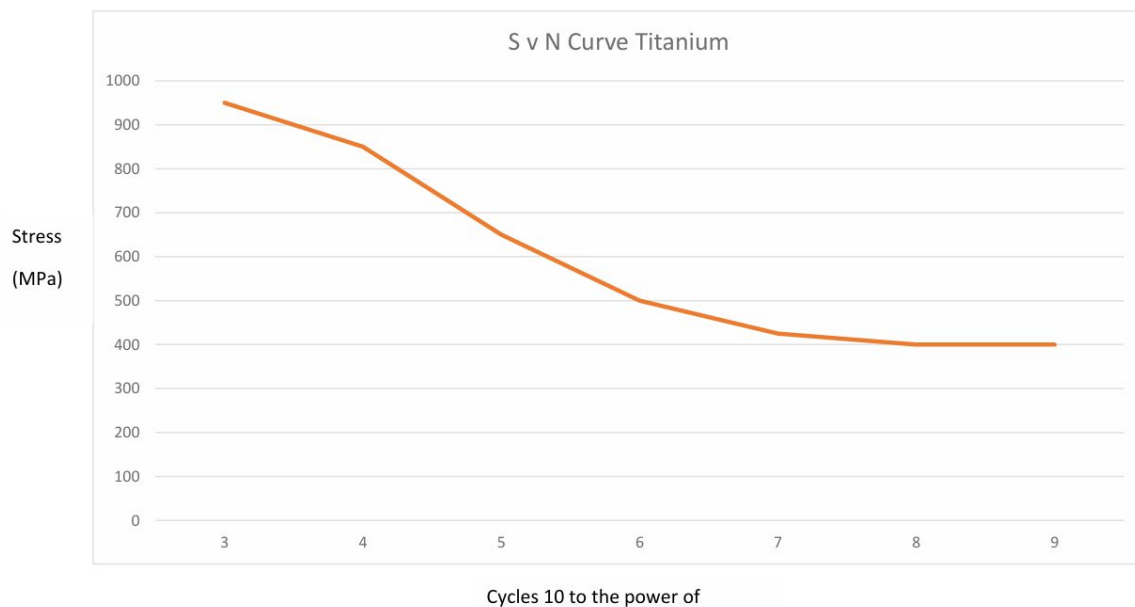

Fig Q5c- S-N Curve for CoCrMo material used.
b) In order to verify the behaviour both finite element analysis and strain gauge techniques were used to evaluate the design. The output from the finite element model is shown in figure Q5c indicating the principal stress values at the position of interest.